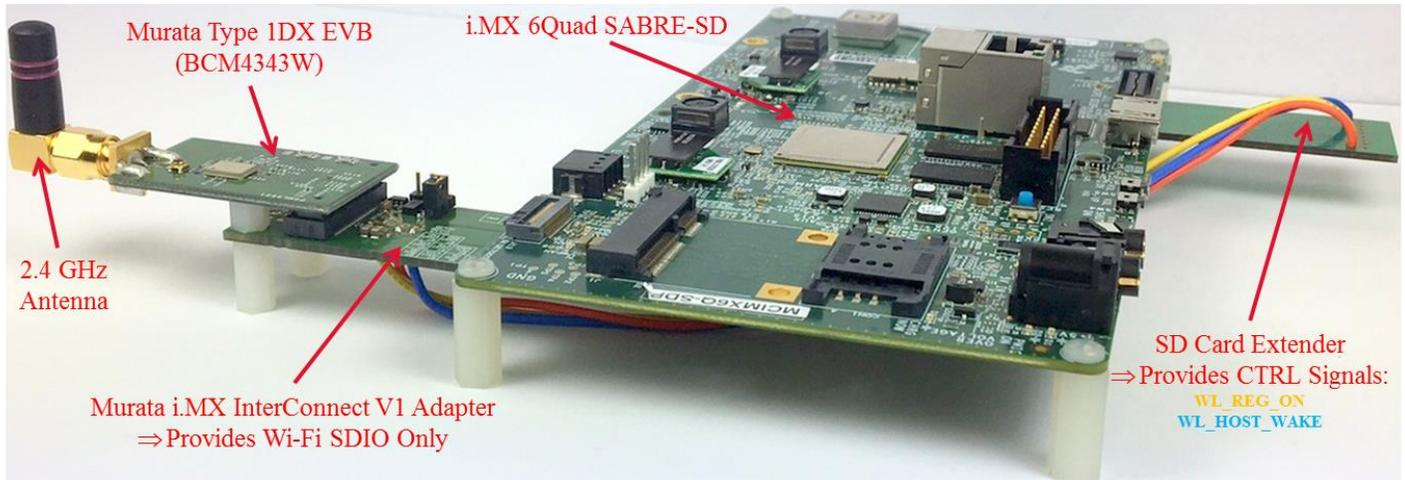

Figure 6: i.MX 6Quad SABRE-SD with V1 Adapter and Type 1DX EVB
- [3] Insert V1 Adapter board into SD2 slot and SD Card Extender into SD3 slot. Note the orientation as shown in **Figure 6**.